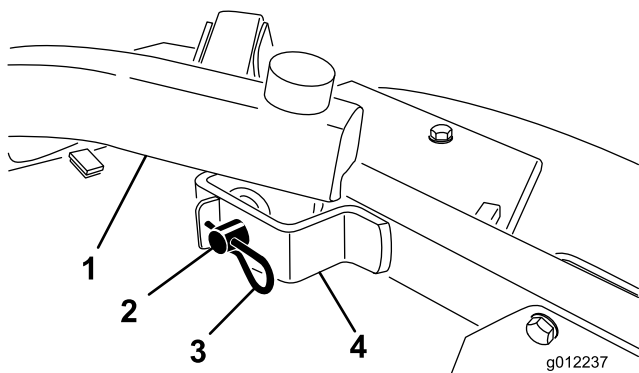

Figure 21
4. Remove the hair pin cotters and clevis pins securing the lift arms to the castor arm brackets (Figure 21).